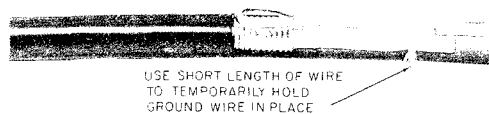

Fig. 44—Ground Wire Temporarily Held in Place
- (e) Place ground wire loop over sheath opening with wire centered on sealing tape. Tie the wire in place temporarily as shown in Fig. 44.